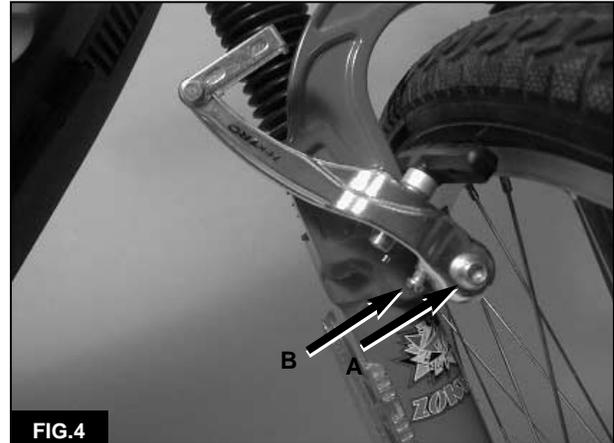

FIG.4
- c. If necessary, balance the caliper arms by turning the spring-tension adjuster (**B, Figure 4**) on either arm.